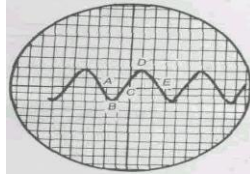

Fig.9.4 Wave form of the signal on the CRO screen
8. Turn the time base control on and set the trigger control to automatic. Adjust the  $x$ -shift, the  $y$ -shift and the time base controls to obtain a stable sinusoidal waveform on the screen as shown in Fig.9.4.
2. Count the number of divisions along the y-axis covered between points *B* and *D* of Fig.9.4. Note down the distance *d*, in cm, between these points: .....cm
2. Use the y -shift to adjust the wave form so that either point *A* or *E* shown in Fig. 9.4 touches a vertical line.